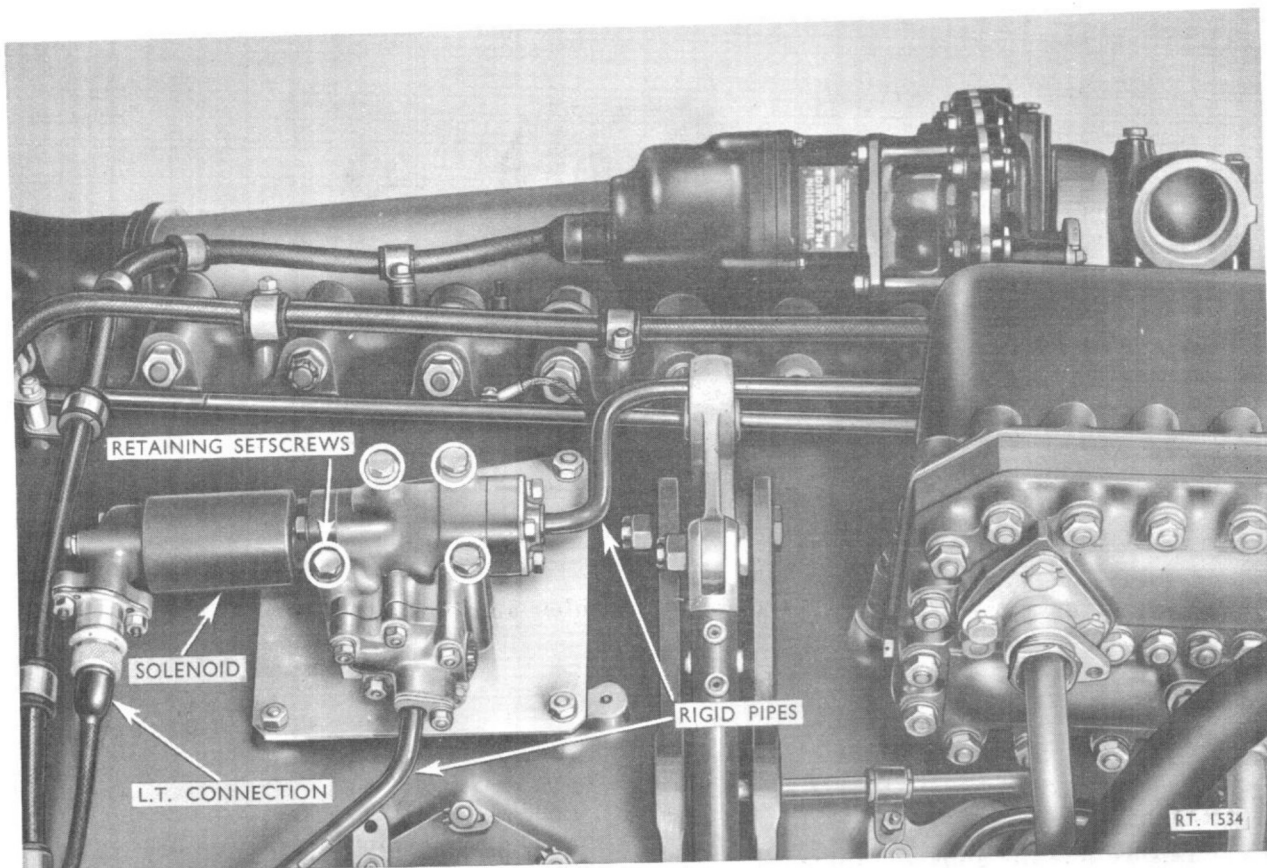

Fig. 10 Fuel dip unit
57. The fuel dip unit (fig. 10) and solenoid are calibrated together and must be changed as a single unit.